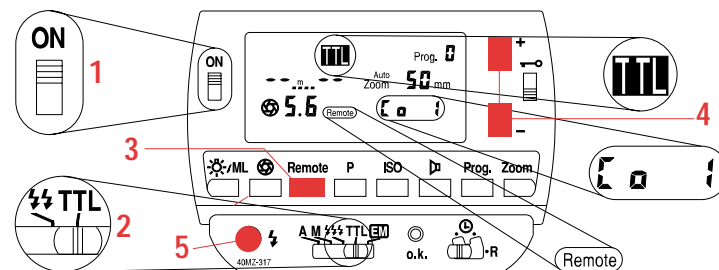

Fig. 17: Settings for TTL remote operation
- 1 Switch on the flashgun mounted on the camera with the main switch ①.
- 2 Set the operating mode selector ③ to TTL.
- 3 Press the **Remote** button ④ on the flashgun mounted on the camera.
- 4 Use the „+“ button ⑨ to select the controller address **Co 1** or **Co 2**.
- Fit each slave with an SCA 3080 Slave Adapter, switch on with the main switch ①, and set the operating mode selector to TTL: The slaves are now in slave mode.
- 5 Press the manual firing button ⑭ on the flashgun mounted on the camera and fire a test flash.
- The slave unit responds with a delayed flash, thus confirming that it is ready for operation. If several slaves are used at the same time, all will react simultaneously. The LC display indicates SL 1 or SL 2, depending on the controller address selected (Fig. 17). If, after a test flash has been fired, proper function is not confirmed by one of the slave units in the form of a delayed flash, then the sensor ⑥ in the SCA adapter has not received any light pulse. Should this be the case, rotate the rotary base ③ of the flash unit so that the sensor ⑥ can receive a light pulse, and repeat step 5.